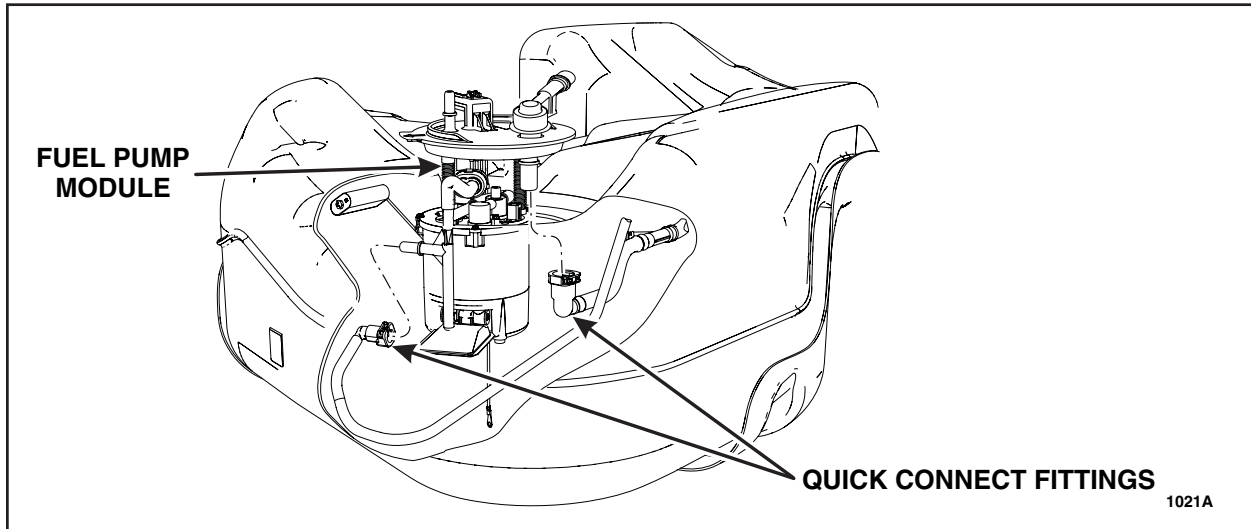

FIGURE 6
21. Lift the fuel pump module slightly out of the tank and disconnect both quick connect fittings from the fuel pump module. See Figure 6. For additional information, refer to WSM Section 310-00.
37. Position the fuel pump module into the *new* fuel tank and connect both quick connect fittings. See Figure 6. For additional information, refer to WSM Section 310-00.